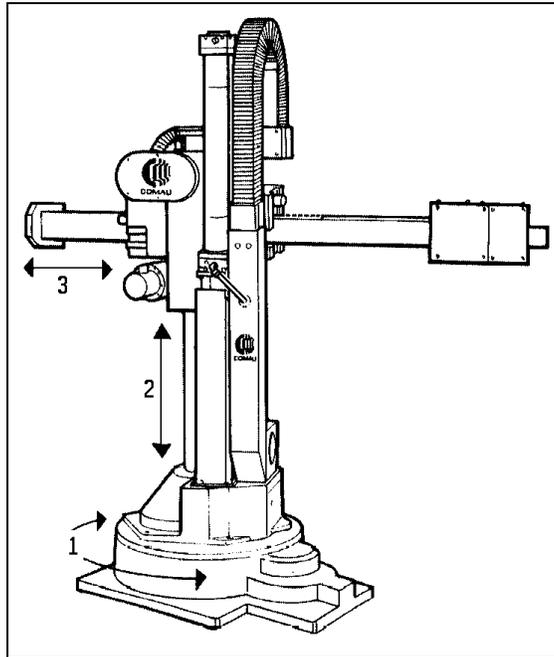

Figure 8-5
- ◆ **Cylindrical Robots:** A cylindrical robot arm, shown in Figure 8-5, consists of one revolute joint and two prismatic joints and is designated as RPP.